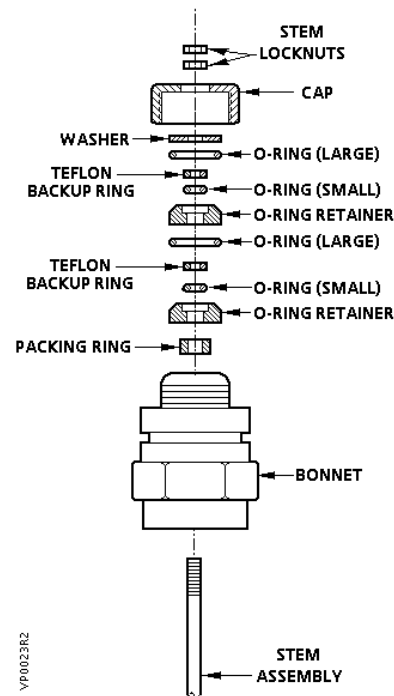

Figure 4. Packing Assembly.
- Slide the stem into the bonnet. See Figure 4.
- Slide the large O-ring into the bonnet cavity. Slide the copper washer onto the stem and place the cap over the stem. Thread the cap onto the bonnet. Hand tighten to bring all packing components together. With a wrench, tighten the cap to 10 to 20 ft-lbs. See *Figure 4*.